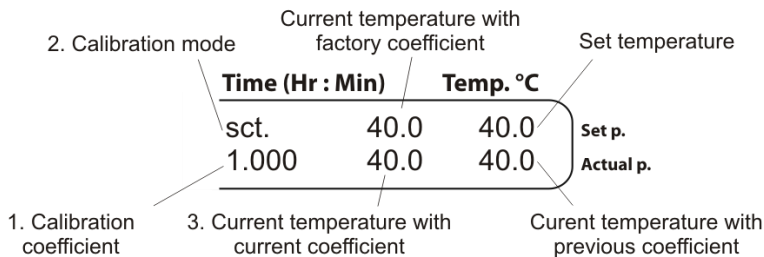

Figure 3. Control panel in calibration mode
- 7.2. To change the calibration coefficient, hold the **RUN/STOP TIME** key (fig. 1/7, **PCH-1, PCH-2 & PCH-3**) or **Start Stop** (fig. 2/7, **CH 3-150**) key pressed for more than 8 s to activate calibration mode. The calibration mode appears on the display (fig. 3).
- 7.3. **Restoring factory settings.** Set 1.000 value using the **▲** and **▼ Temp or T (°C)** keys as shown on fig. 3/1 to restore the factory settings. Press the **RUN/STOP TIME** or **Start Stop** key once to save the changes and exit the calibration mode.
- 7.4.4. Let us assume that the readings of independent sensor is 39°C, but the display's actual temperature is 40°C (fig. 3/4). Then it is necessary to add 1°C correction.
- 7.4.5. Hold the **RUN/STOP TIME** or **Start Stop** key pressed for more than 8 s to activate calibration mode. The following parameters will be shown on the display (fig. 3).